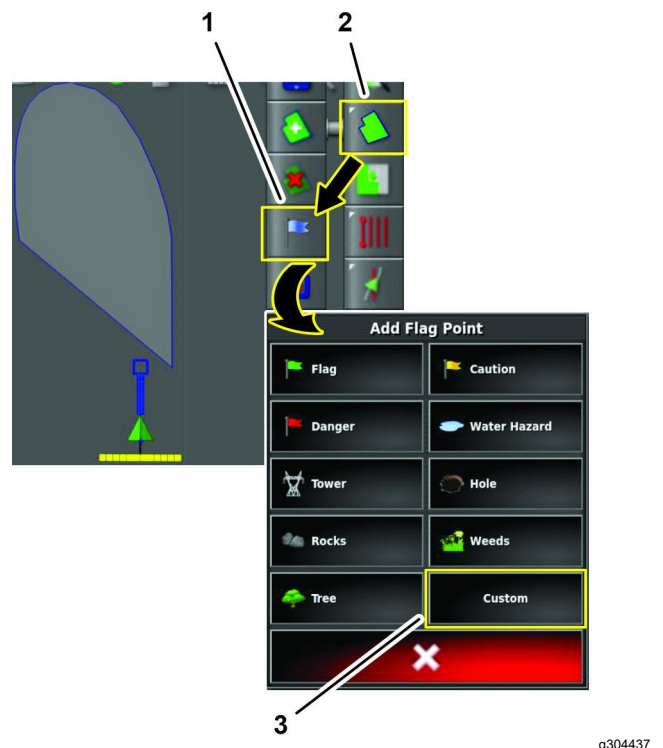

Figure 80
3. Press the CUSTOM flag point icon (Figure 80).
2. In the add flag point menu, press FIELD MENU icon and the SET FLAG POINT icon (Figure 80).